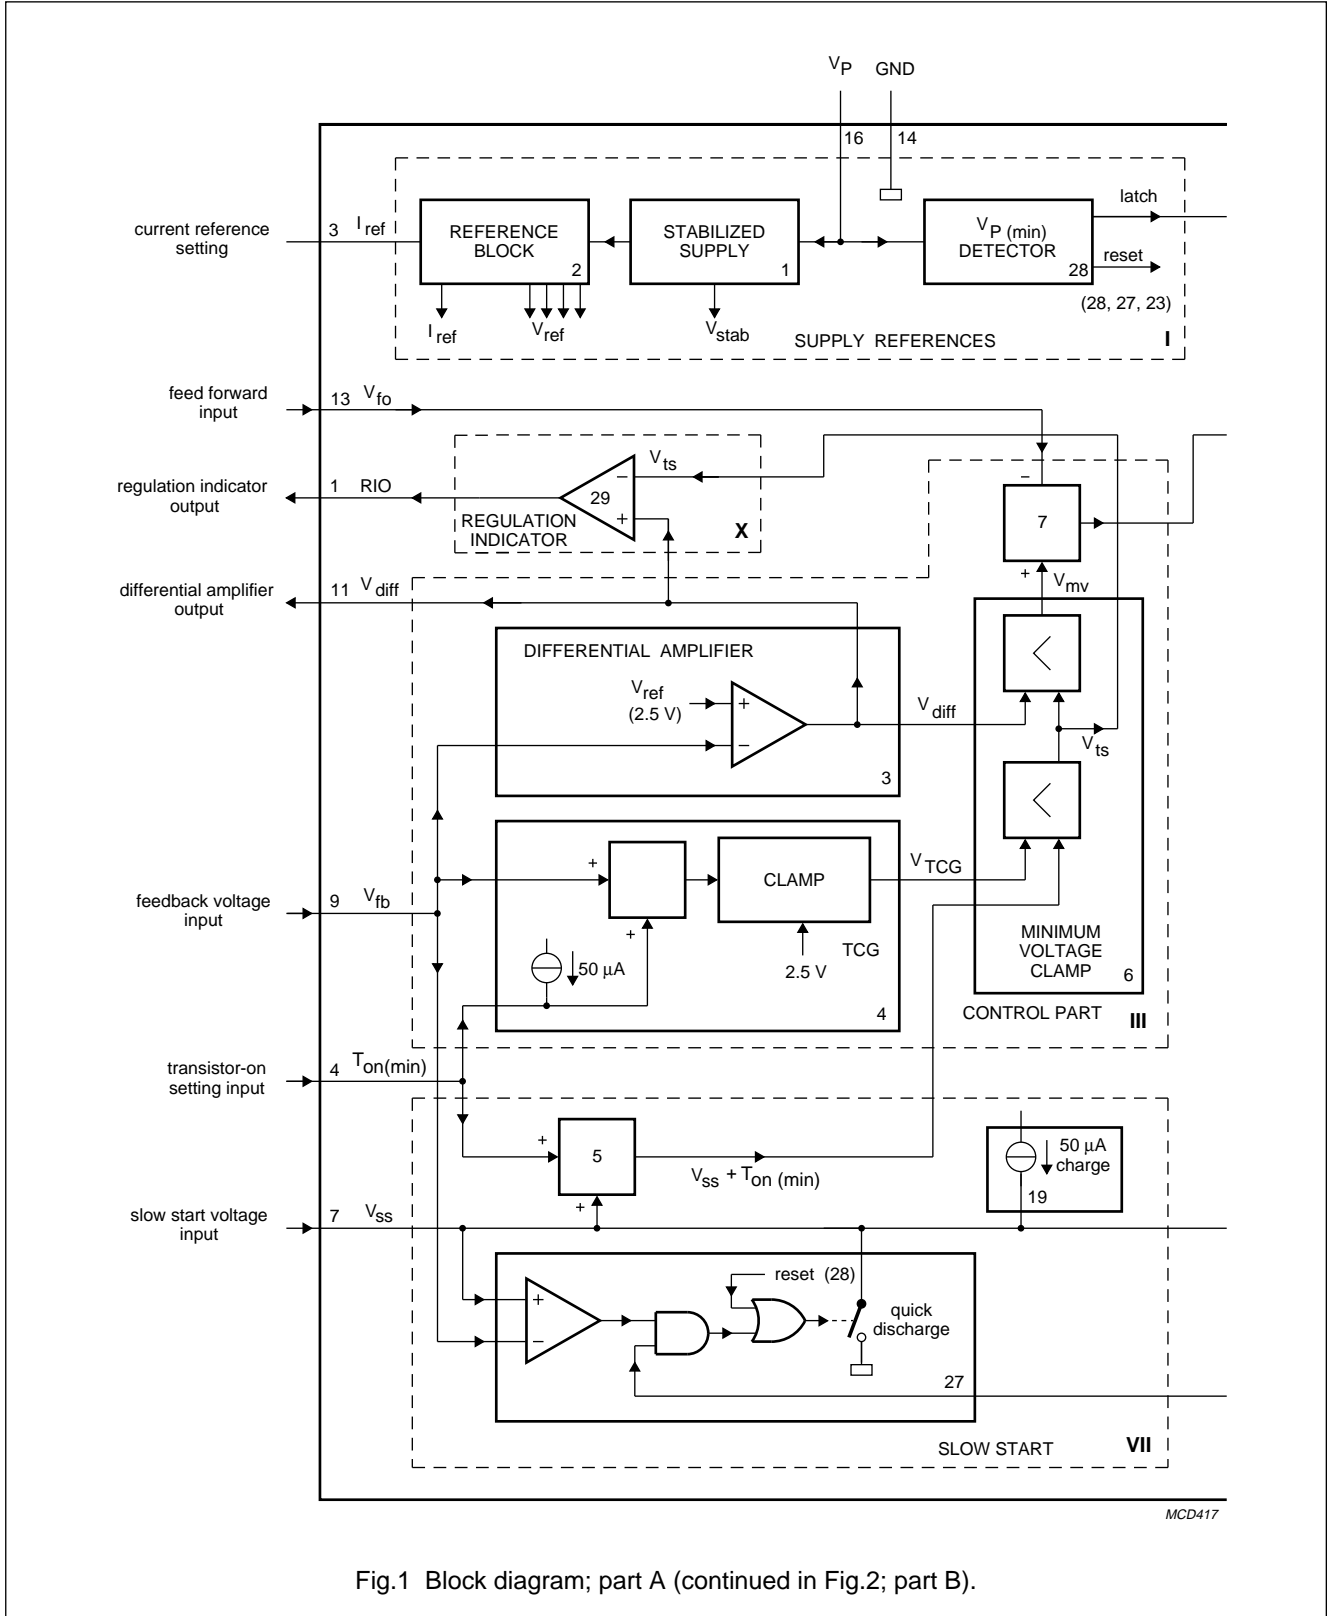
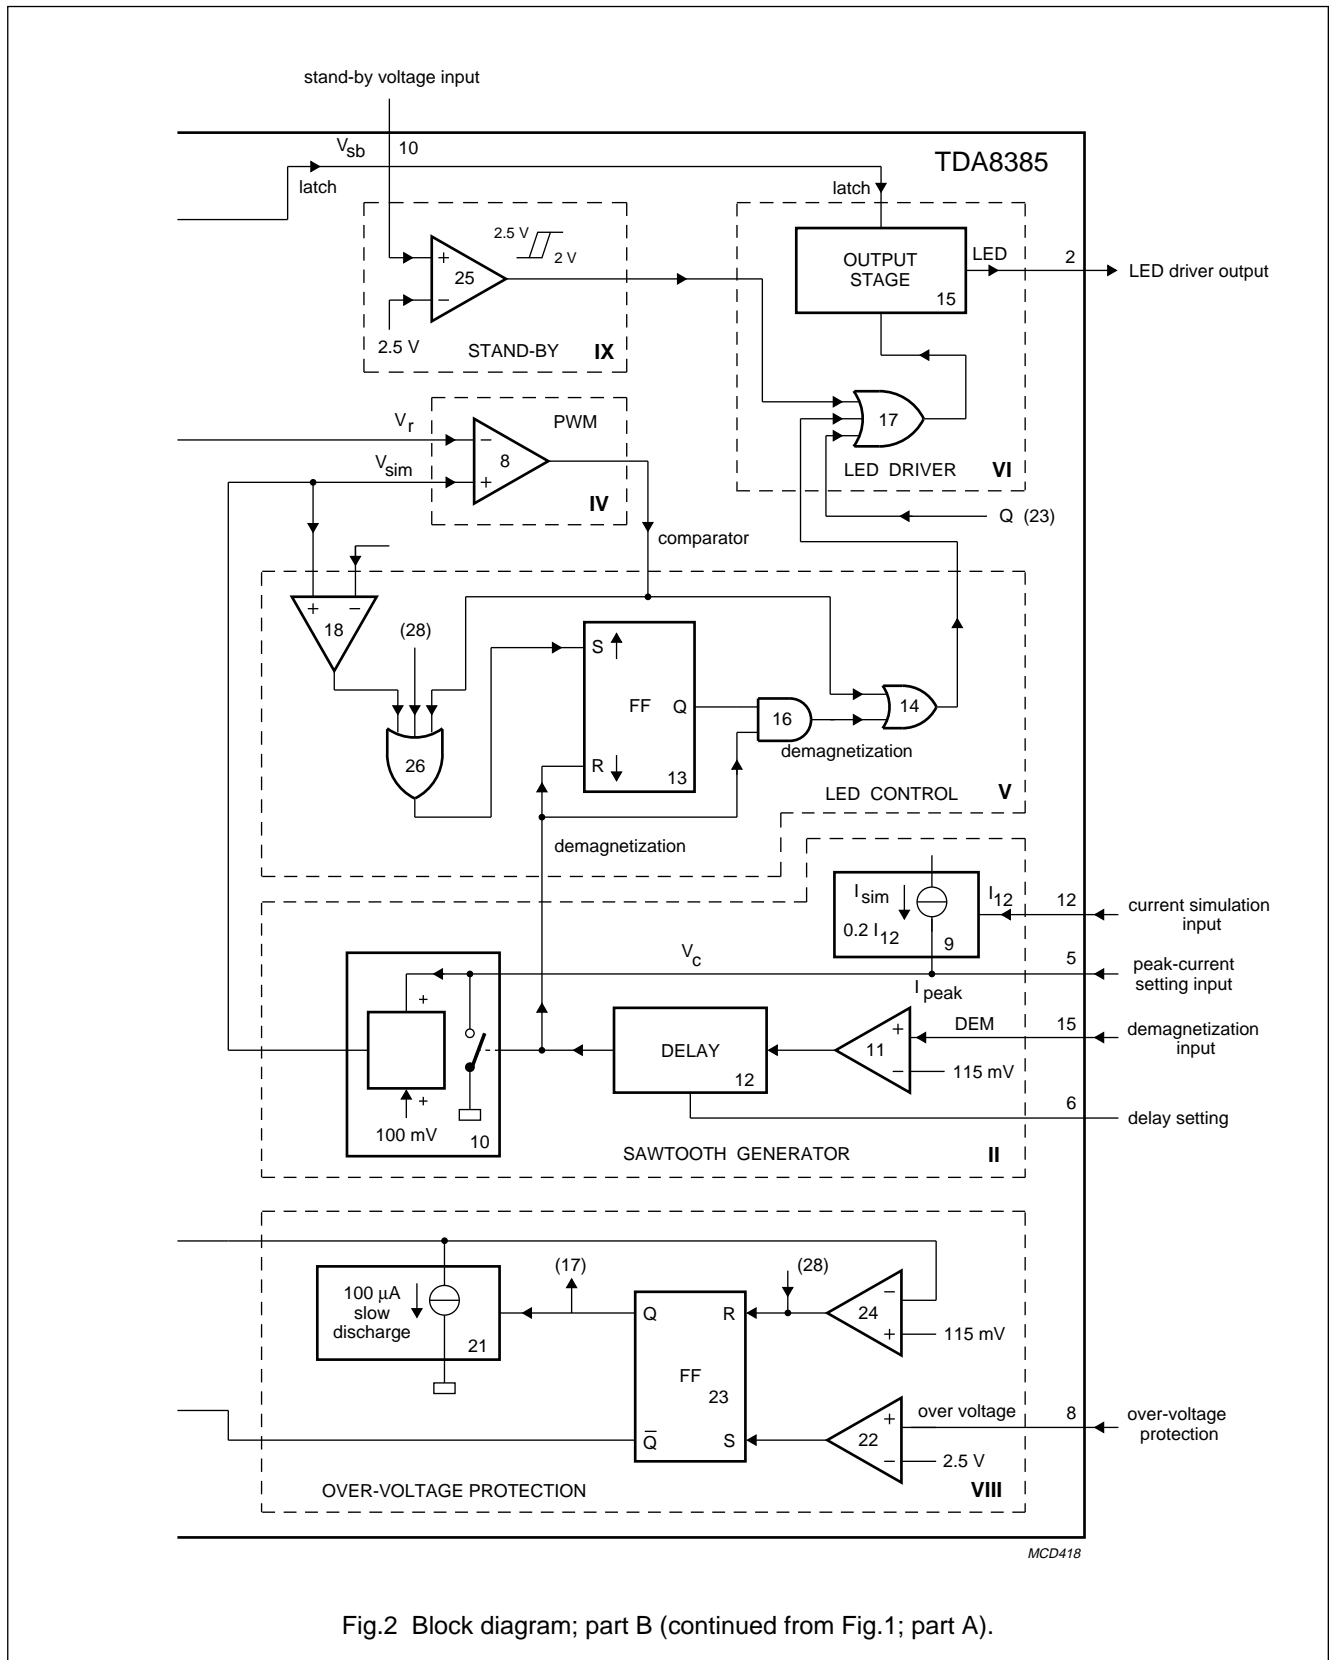

Fig.1 Block diagram; part A (continued in Fig.2; part B).
Fig.2 Block diagram; part B (continued from Fig.1; part A).
The TDA8385 can be divided into 10 functional blocks as shown in Fig.1 and Fig.2.
### Block for Figs 1 and 2
These 10 functional blocks of Fig.1 and Fig.2 contain sub-sections numbered 1 to 28 which are
Equation (6) shows that by limiting the voltage Vc the collector peak current can be limited. The peak current is limited by means of the clamping circuit in the transfer character generator (TCG); see Fig.1 sub-section 4.